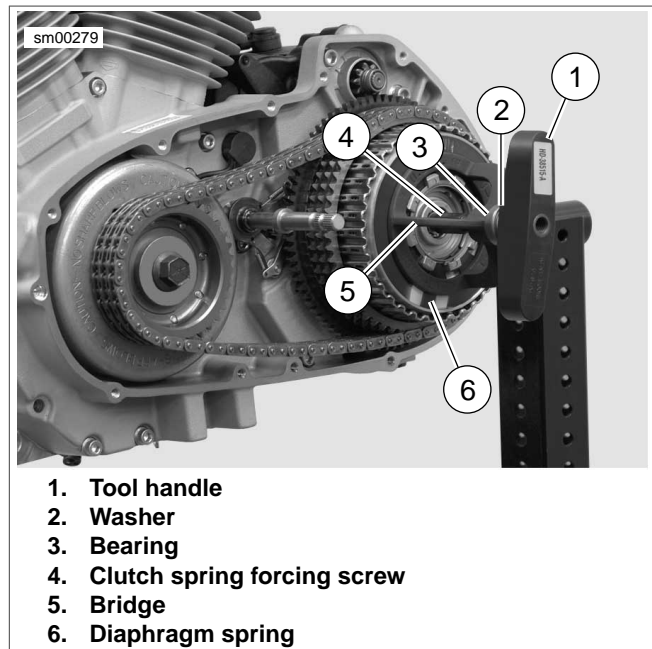

Figure 5-13. Compressing Clutch Diaphragm Spring
4. See Figure 5-13. Attach tools to compress clutch diaphragm spring.
- a. Thread the CLUTCH SPRING FORCING SCREW (Part No. HD-38515-91) (4) onto the clutch adjusting screw.
- b. Place the bridge (5) of SPRING COMPRESSING TOOL (Part No. HD-38515-A) against diaphragm spring (6).
- c. Install bearing (3) and washer (2).
- d. Thread the tool handle (1) onto end of forcing screw.